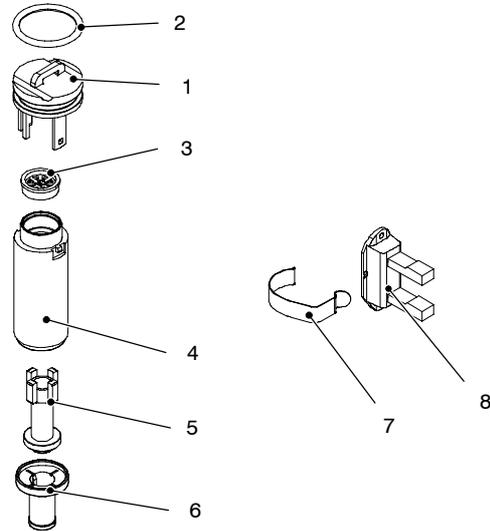

Fig. 3
- 2 Disconnect the connectors *B* and remove the sensor holder spring 7 (Fig. 2 – Fig. 3).